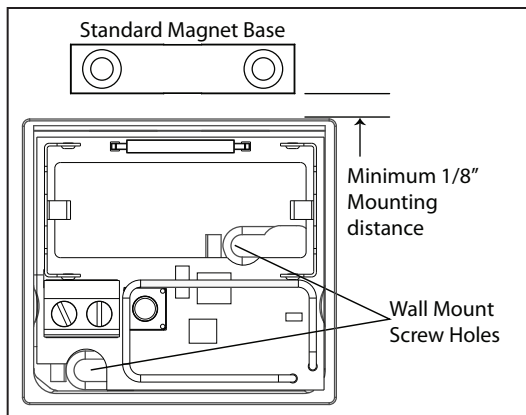

Figure 5: Transmitter and Standard Magnet
3. Place two supplied #4 flat head screws into the mounting hole locations as shown in Figure 5 and 6 to secure the housing to the surface.